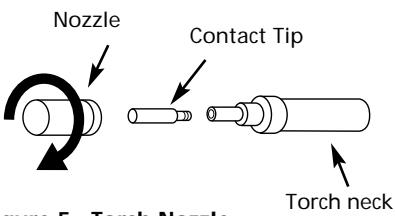

Figure 5 - Torch Nozzle
7. Remove nozzle by turning clockwise while pulling off, then unscrew contact tip from end of welding torch (See Figure 5). Plug welder into a proper power supply receptacle.
9. Carefully slip contact tip over wire and screw tip into torch end. Install nozzle by twisting clockwise while pushing onto torch (See Figure 5). Cut wire off approximately 1/4 inch from nozzle end.